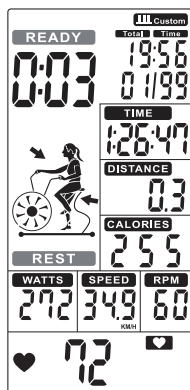

FIGURE 37
- When a series is finished, the time starts counting and REST flashes once per second along with an audible alert (Figure 37), while READY will flash for the last 3s (Figure 38).